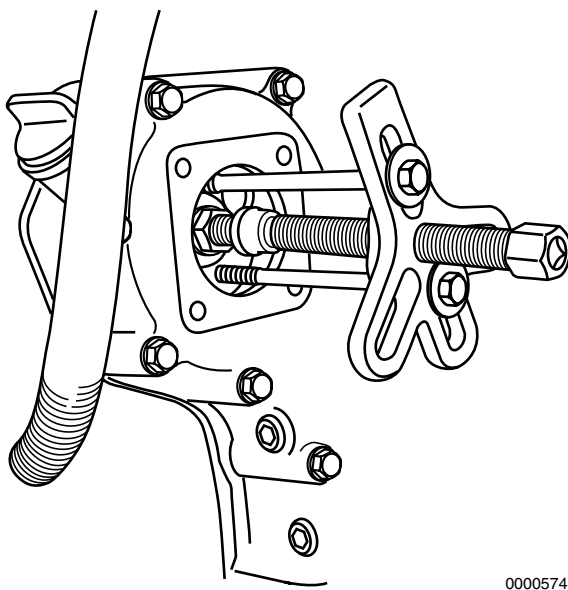

Figure 7-13
20. Remove the pump drive gear and hub as an assembly using an appropriate two-bolt gear puller **(Figure 7-13)**.